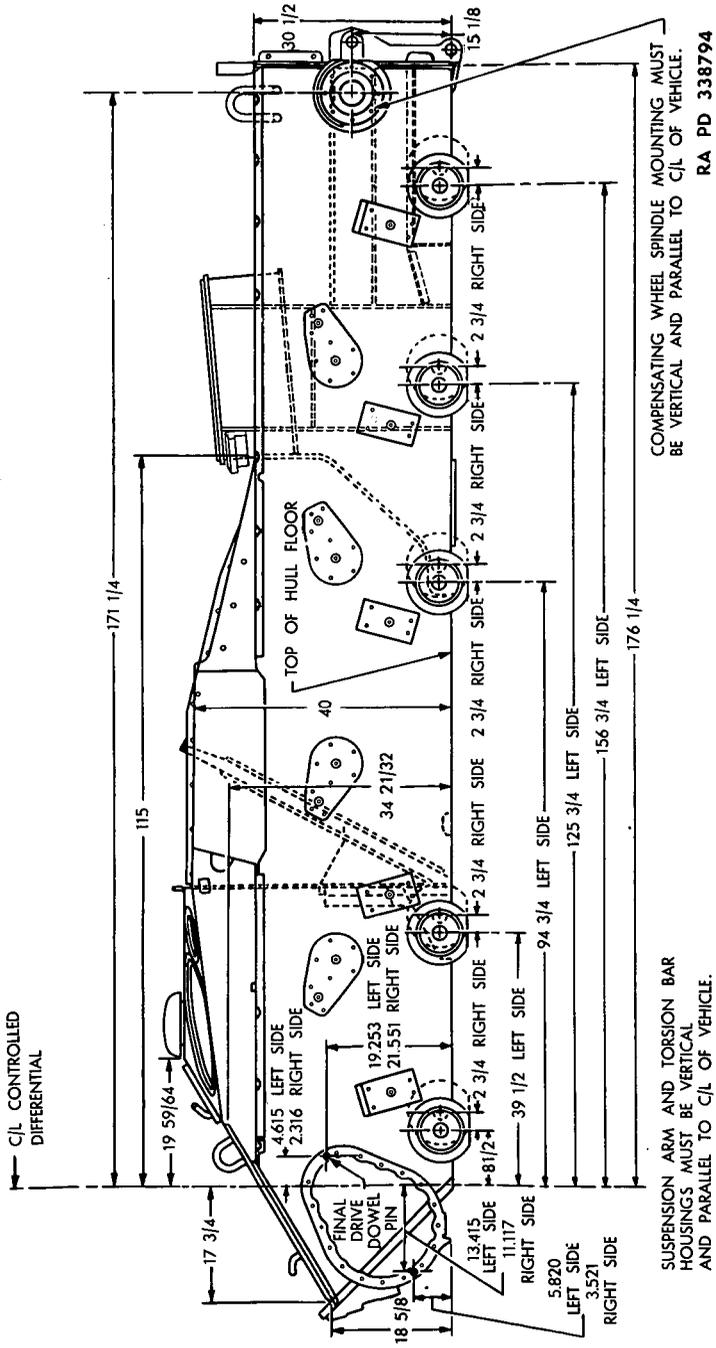

Figure 47. M41 hull dimensions, left side.
a. HULL DIMENSIONS. All necessary dimensions for checking the alinement of the M24 hull welded assembly are given in figures 43 through 46. The dimensions for checking the M41 hull are given in figures 47 through 50. After straightening and welding operations, check the hull to make certain that it conforms to the dimensions given in these figures.